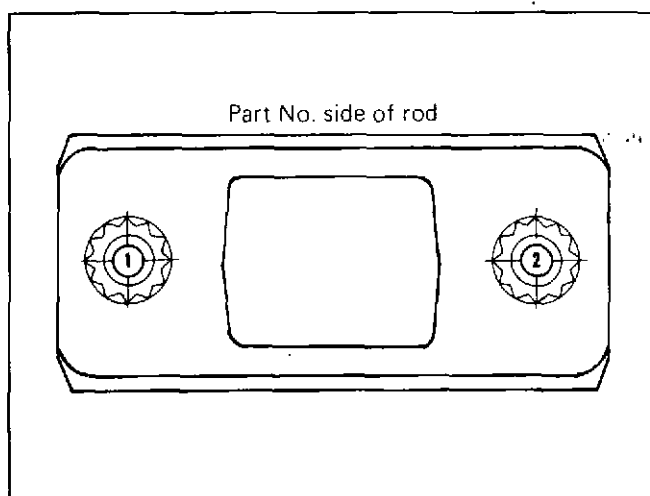

Fig. 1-58 (N114222). Tightening Sequence For The Connecting Rod.
2. Assemble the cap to the rod and tighten the capscrews or nuts to the correct torque in the correct sequence. Fig. 1-58 shows the correct sequence.